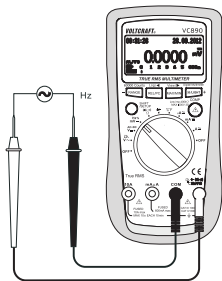

Fig. 4
1. Turn on the DMM and select the measuring range "mV \sim Hz %". Press the SHIFT/SETUP button (3) until "Hz" appears in the display.
2. Insert the red test lead in the \sim CHZV Ω measuring socket (7), the black test lead in the COM measuring socket (8) (Fig. 4).